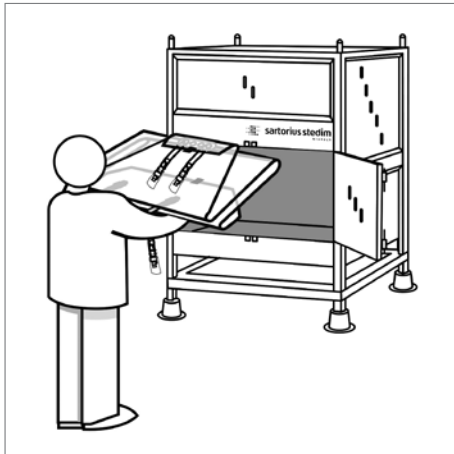

Fig. 9
- Hold the folded bag on both arms with the 4-port system uppermost and on the back, and the two (bottom) ports underneath (see Fig. 9).